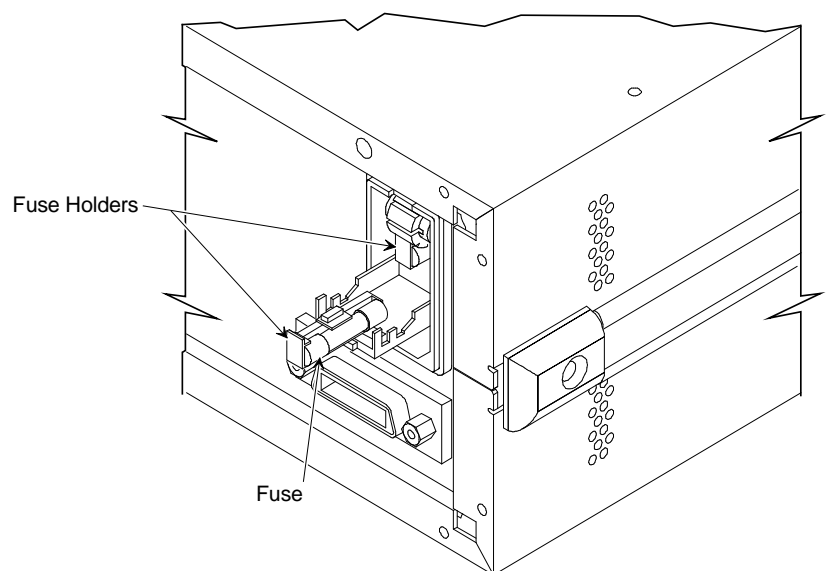

Figure 6-1. Removing/Replacing a Line Fuse
3. Grasp the fuse holders and pull them out (Figure 6-1).